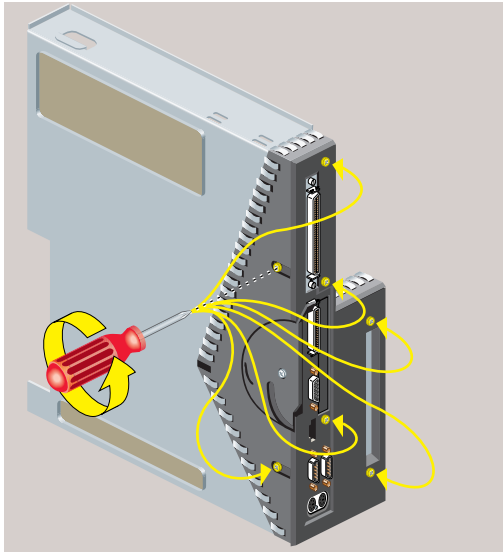

Figure 2-31 Removing the Screws From the Face Plate
- Use a Phillips screwdriver to remove five screws in the rear and two screws on the underside, in the locations shown (Figure 2-31).